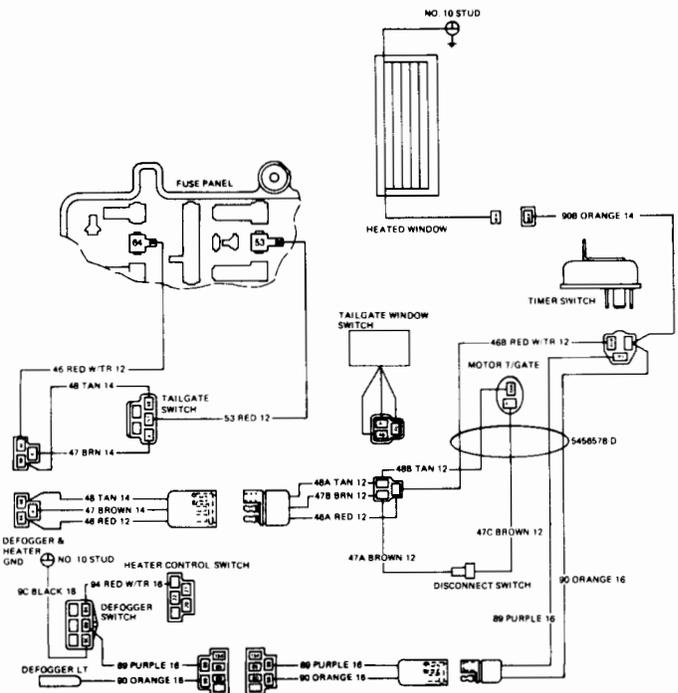

Fig. 3-103 Heated Rear Window Wiring Diagram
Braided wire, soldered to each bus bar at 2-1/2-inch intervals, serves as the electrical feed and ground for the grid. The grid feed wire is attached to the timer-relay, mounted inside the tailgate. The feed to the relay is supplied by a wire attached to the fuse panel power tailgate terminal (fig. 3-103).
(1) Turn ignition switch on and press defogger switch.
(2) Disconnect optional equipment wiring harness at connector under dash. Connect a 12-volt test lamp from purple wire (89) to a good ground (fig. 3-103). Test lamp should light.
(3) Shut off defogger switch and test lamp should not light.
(4) To test indicator light, disconnect orange wire from lamp. Connect a jumper wire from accessory terminal of fuse panel to orange wire. With ignition switch turned to ACC position, the lamp should light.
(1) Remove tailgate trim panel and access hole cover.
(2) Disconnect three-wire connector plug from timer-relay (fig. 3-103).
(3) Connect a jumper wire from fuse panel accessory terminal to X-terminal on timer-relay.
(4) Connect another jumper wire from fuse panel accessory terminal to red wire with tracer terminal of switch.
(5) Connect third jumper wire from purple wire terminal of switch to P-terminal of timer-relay.
(6) Connect a 12-volt test lamp from L-terminal of timer-relay to a good ground.
(7) Turn ignition switch to ACC position. Test lamp should not light.
(8) Press defogger switch. Test lamp should light and remain on for 8 to 12 minutes. This test should be performed with a fully charged battery. If switch or timer-relay does not function as described, replace individual unit. If timer-relay does not shut off when key is turned off, replace switch.